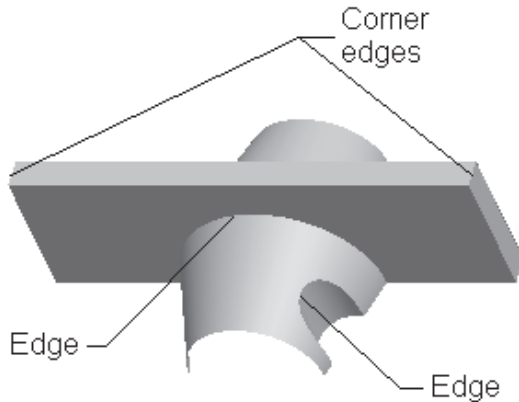

Figure 14-100 Edges selected to create rounds
- h. Create the round features, refer to Figures 14-100 through 14-102.
1. Choose the **Round Tool** from the **Engineering Features** toolbar. Select the edge of the cylindrical slot, see Figure 14-100. The preview of the round is highlighted on the selected edge.
4. Select the four edges that have a radii of 18. The two edges are the edges that are formed by merging the two blend surfaces with the base surface and the two edges are the top corners of the base surface, see Figure 14-100.